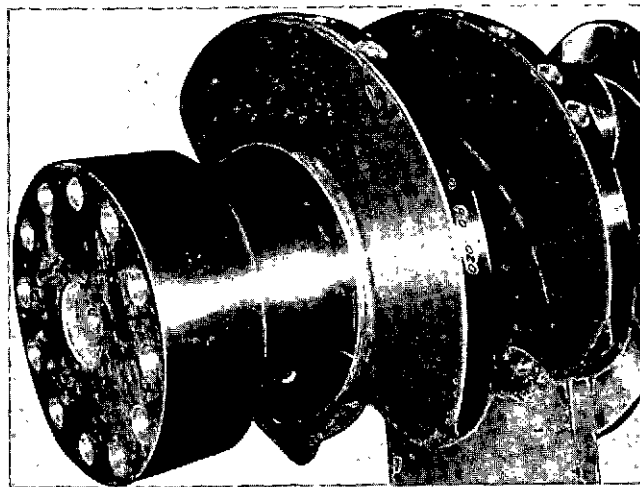

Fig. 1-4-6, V40182. Oversize thrust bearing size mark on crankshaft
2. Reground crankshafts or those used with oversized thrust rings should be marked so the correct thrust rings will be installed in their proper position. Fig. 1-4-6.
b. Both the thrust ring size and ring location must be included in the stamping on crankshaft counter weight as shown in Fig. 1-4-6.